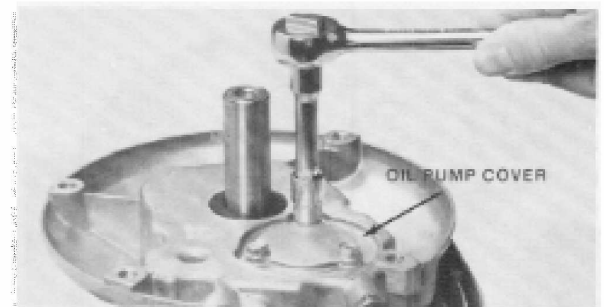

Figure 4-18
1. Turn the engine upside down and remove the three screws retaining the oil pump cover. Use a 10 mm wrench or socket. See Fig. 4-18.